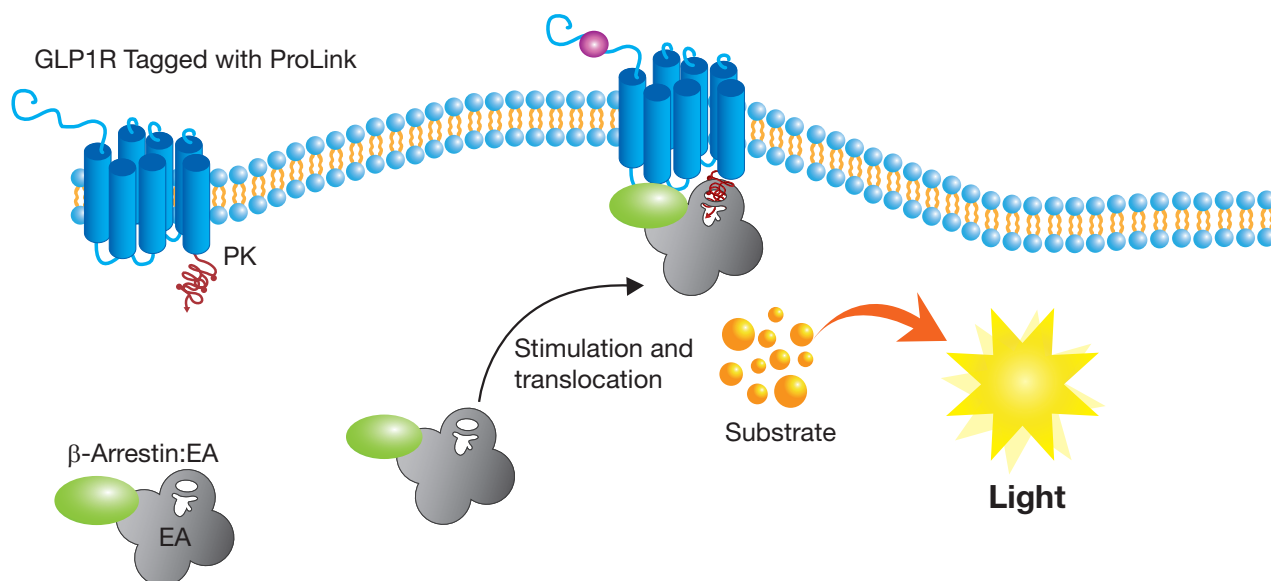

Figure 1. PathHunter Exendin-4 Bioassay Principle
- h. Set up additional dose curves for agonists and inhibitors. See figures 1 and 2 for sample plate maps with agonist and inhibitor dose curves.
Figure 1. This agonist plate map shows 11-point dose curves with 2 data points at each concentration for 4 agonists per plate for a total of 88 data points per 96-well plate.